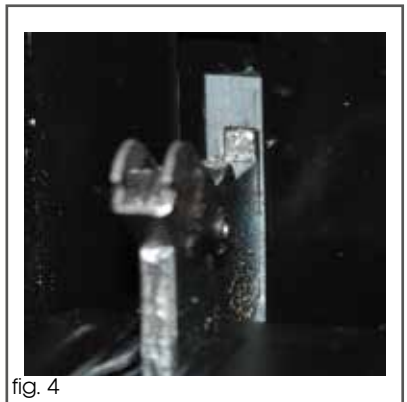

fig. 4
- Next, ensure the notch on the underside of the hinge sits on the lip of the hinge slot. Open the door fully. Each hinge should be seated in the same way as the hinge in fig. 4. If it is not, follow the steps for removing the door and try replacing it again.